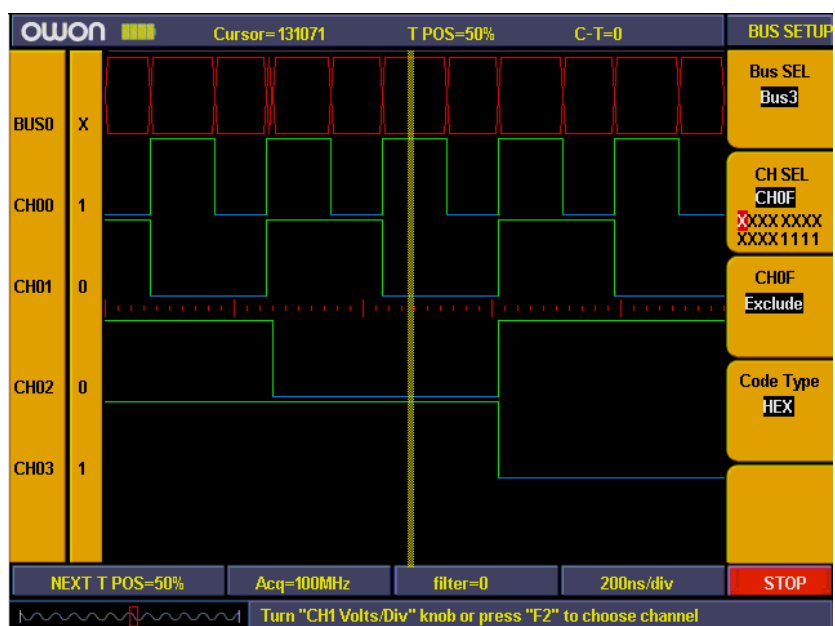

Fig.5-71: Bus setting
- BUS setting is finished (refer to Fig.5-71).